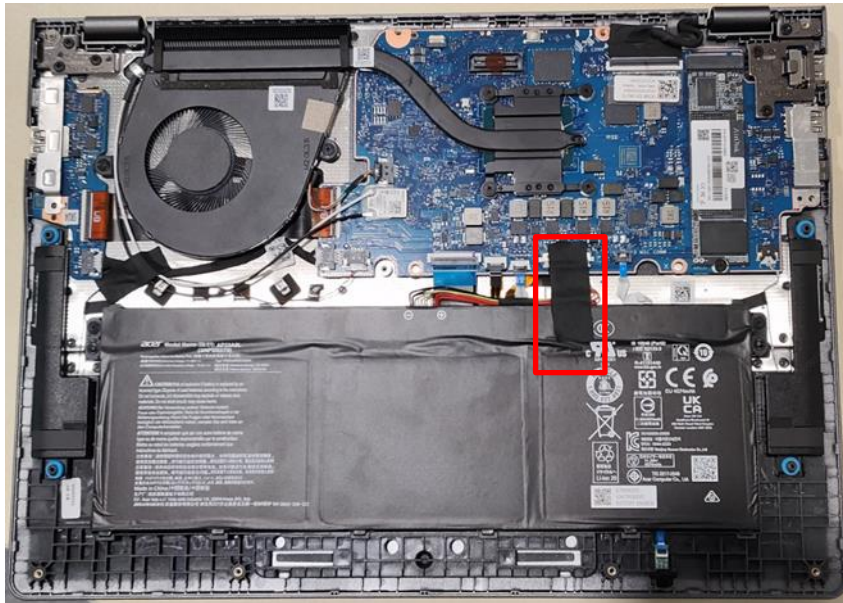

Figure 3-88. Replacing the Battery Pack
3. Connection battery connector and install mylar (Figure 3-88).